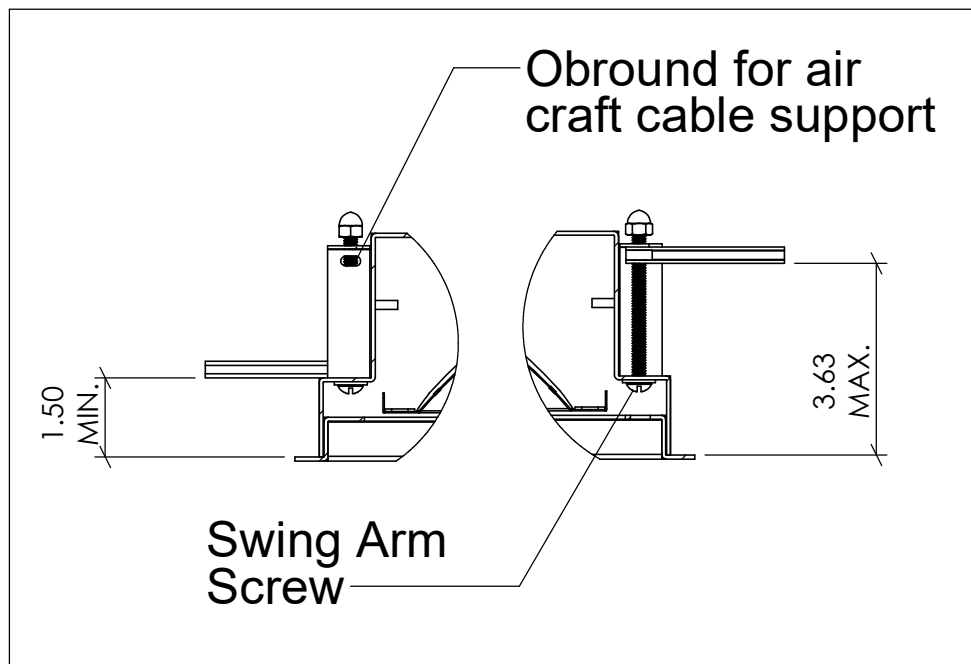

Figure 5
5. Rotate Swing Arm Screws to adjust the height of the Swing Arms as needed (Fig. 5)